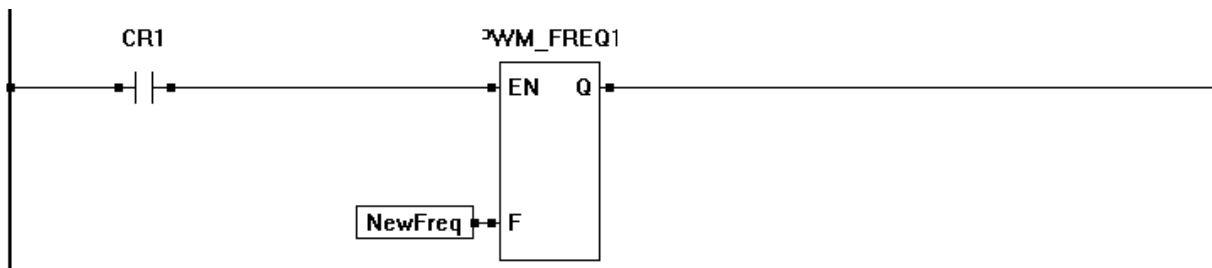

Figure 8-4
In addition to an adjustable duty cycle, the PWM clock frequencies (CLK A / CLK B) can be changed in the ladder diagram project by use of the PWM_FREQ function block. The PWM_FREQ function block has two inputs (EN for enable and F for frequency) and one output (Q). When the EN is true, the PWM channel frequency is changed to the value of the variable connected to the F input of the function block. Figure 8-4 illustrates a sample circuit using PWM_FREQ.